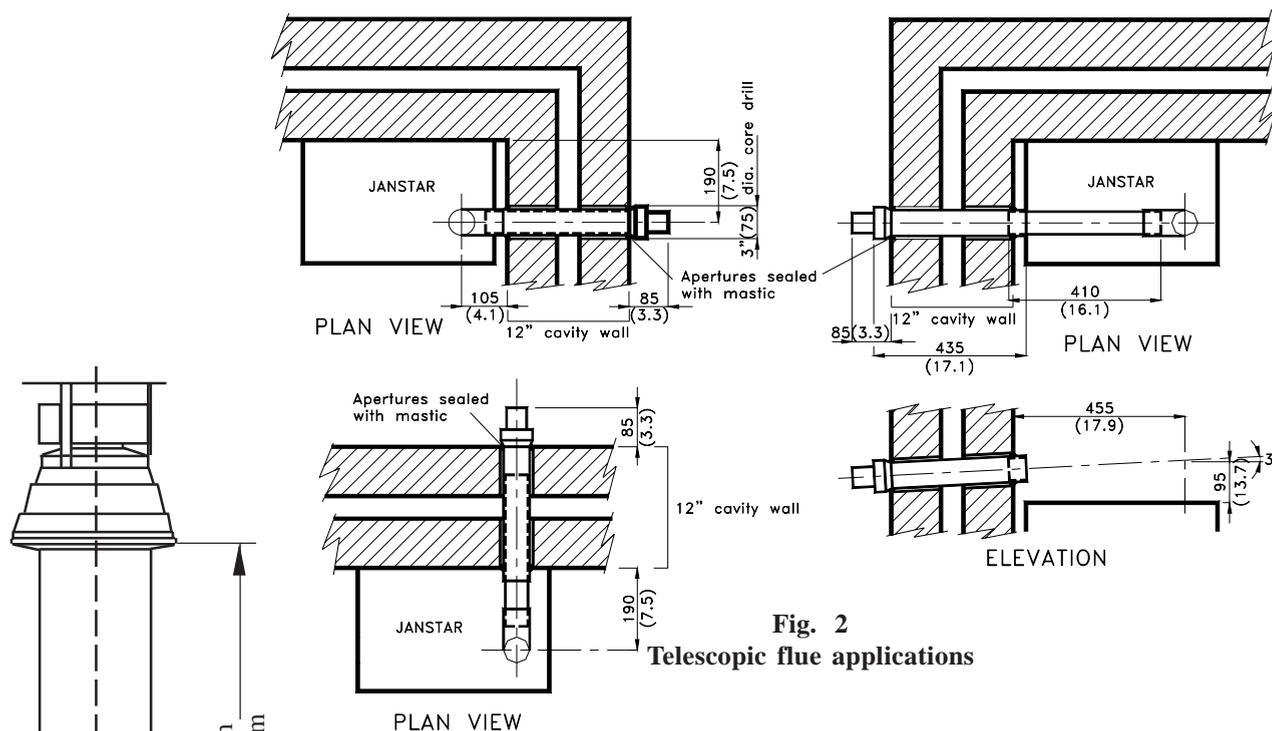

Fig. 2
- 6.2.2 The minimum allowable flue length is 350mm plus one 90° bend for horizontally flued appliances, and the length of the terminal (1240mm) for vertically flued appliances. For applications where the flue exits directly through a wall, the telescopic flue supplied with the heater may be used, as shown in Fig. 2.
- 6.2.4 The overall flue shall be kept as short as possible, with the minimum number of bends. The flue should terminate in its direction, with the terminal section meeting the outer side of the wall, or roofing at the point where it begins to flare out, (refer to Fig. 2). One 90° horizontal bend is equivalent to 1m of straight flue, a 45° horizontal bend is equivalent to 0.5m of straight flue. One 90° vertical bend, where the bend radius is equal to the flue diameter, is equivalent to 1.3m of flue; one 90° vertical bend, where the bend radius is equal to 0.5 flue diameter, is equivalent to 2.9m of flue; and a 45° bend, where the bend radius is equal to the flue diameter, is equivalent to 0.85m of flue.